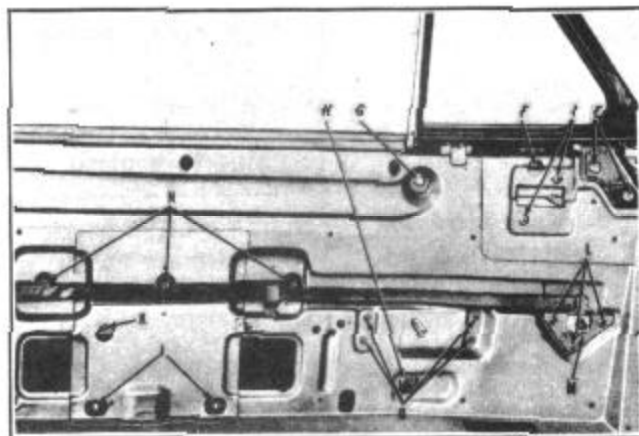

FIGURE 194
2. Cut the inner liner to expose the regulator attaching screws (0), Figure 194.
3. Remove screws (0) attaching the regulator to the door inner panel.
2. Cut inner panel along remote control arm to expose screws (N), Figure 194.
3. Remove screws (N), lower window to bottom of door and release regulator cross arms from door glass channel.
2. Remove the vent wing mounting bracket screws (E), Figure 194.
3. Remove the wing pivot to vent wing regulator screw (F).
4. Remove screws (G) and (H) attaching door wing frame and door window front guide channel to inner panel.
2. Remove the pivot to regulator arm screw (F), Figure 194.
3. Remove the two regulator to inner panel mounting screws (I) and remove the regulator down through forward end of the door and out through bottom opening in inner panel.
1. Remove the two vent wing mounting bracket screws (E), Figure 194.
2. Loosen screw (G) and remove screw (H).
3. To tilt the vent wing frame assembly inward, insert a washer or washers between the wing support and the inner panel at the upper attaching screw (E). (To tilt frame outward, insert washers at lower screw (E).
**NOTE: Tilting the glass inward moves the bottom of the center glass channel away from the inner panel. Washers should be inserted between the lower end of the channel (H) and the inner panel to hold channel in position.**
4. Retighten screws (G) and (H).
**NOTE: Top of door vent wing must solidly contact door opening upper weatherstrip. To adjust, reposition screws (E) and bend bracket (H) upward as required.**